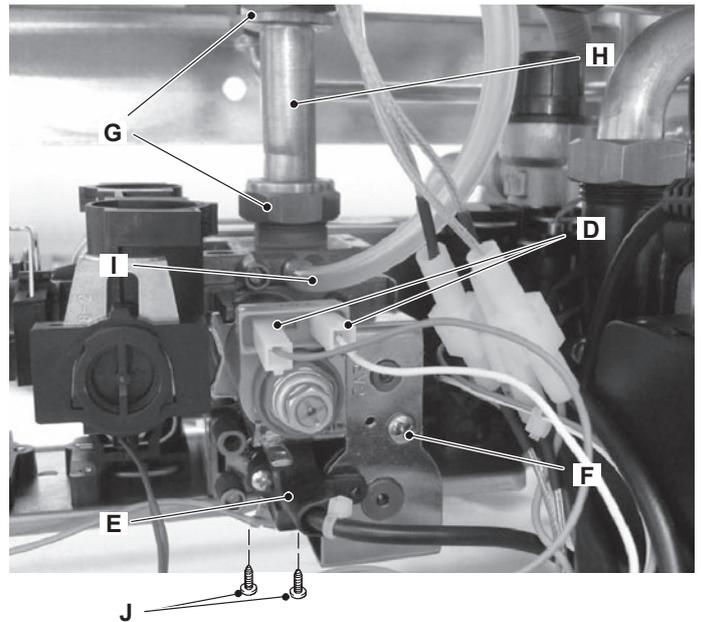

Figure 11.5
- 2 Disconnect the connectors D (Figure 11.5) from the modulating operator and measure the electrical resistance of the coil. Its electrical resistance value must be approx. 80 Ω\*.
- 2 Disconnect the electrical connector E (Figure 11.5).
- 2 Disconnect the connector E (Figure 11.5).
- 2 Disconnect the connectors D and E (Figure 11.5).